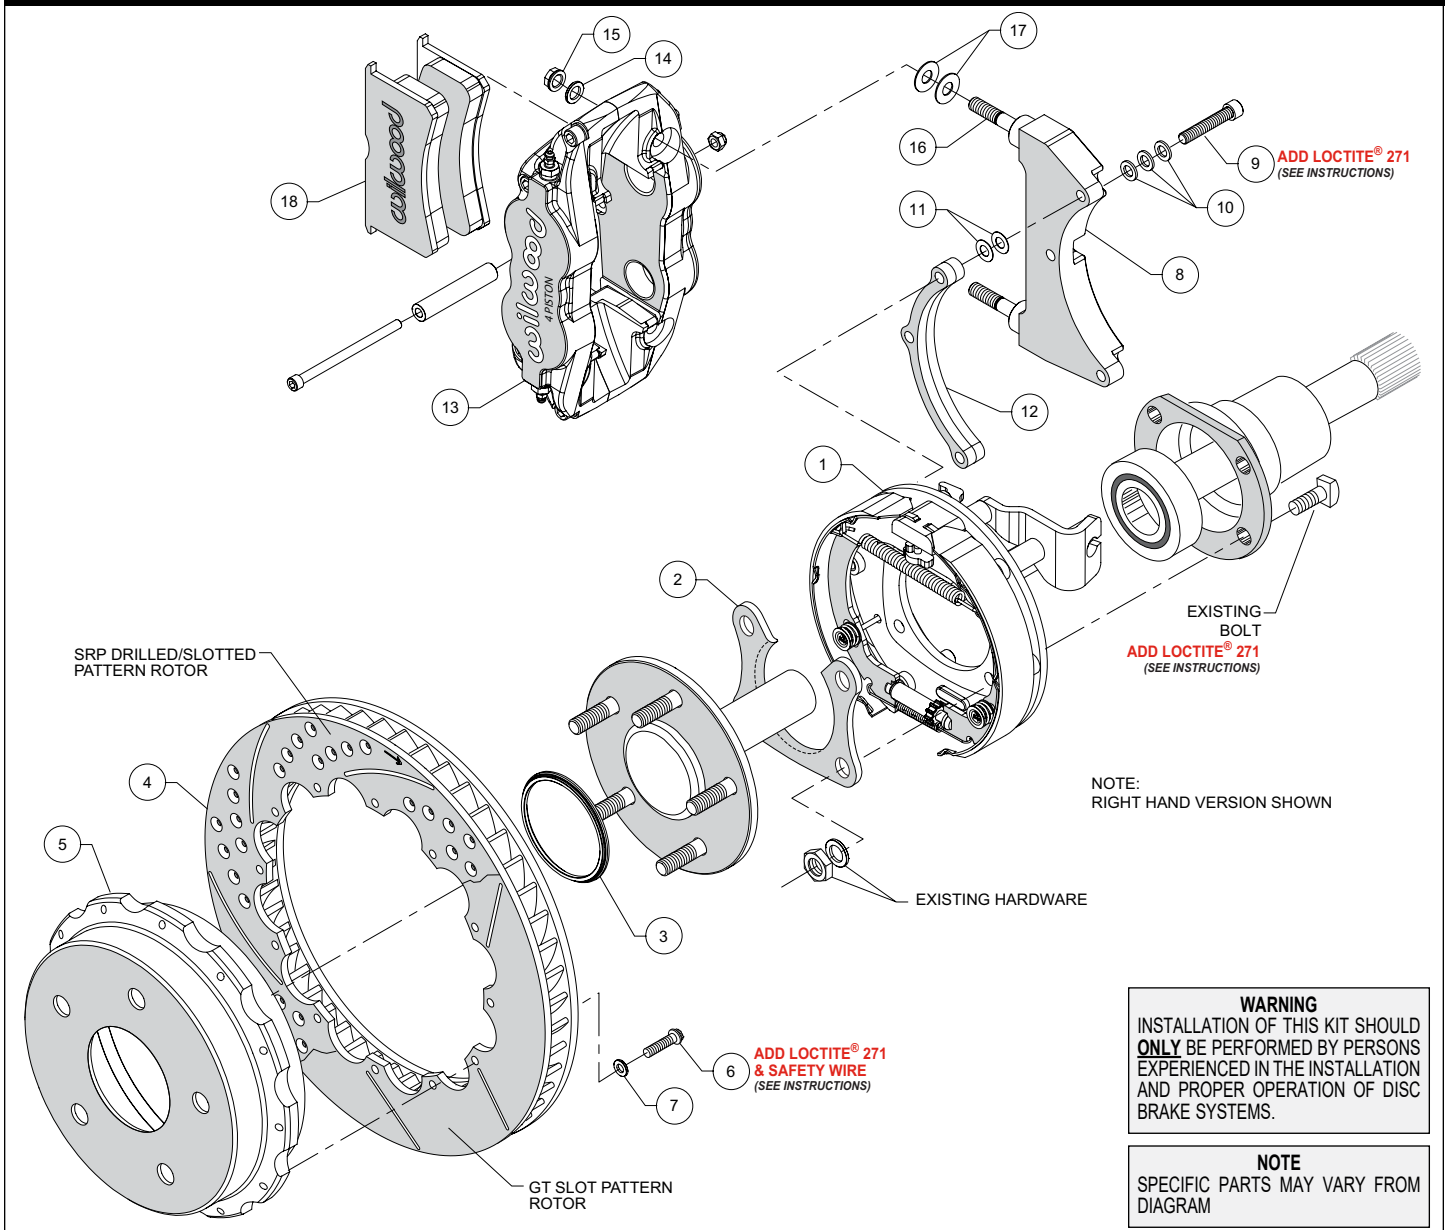
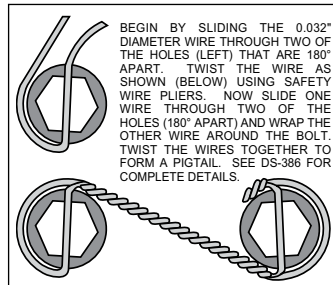

Figure 1. Typical Installation Configuration
Figure 5. Safety Wire Diagram
Assembly Instructions (numbers in parenthesis refer to the parts list, and Figure 1 on the preceding pages): **CAUTION:** All mounting bolts must fully engage clinch nuts. Be sure to check that all bolts are either flush or protruding through flanged side of clinch nut after shimming.
- Orient the bracket assembly (1) as shown in Figure 1 and Photo 1 and slide it onto the axle. Insert the axle and bracket into the axle housing. Ensure that the bracket assembly backing plate fits flush against the axle housing flange.
- Install the bearing retainer (2) with the opening pointing upward and the lip facing inward (toward the bearing), as shown in Figures 1 and 4, and Photo 2. Secure retainer and bracket assembly to the axle housing flange using the Original Equipment Manufacturer (OEM) bolts, washers, and nuts, Figure 1. Apply red *Loctite*® 271 to the OEM bolt threads and torque to OEM specifications.
•**NOTE:** Please reference the caution statement at the beginning of the assembly instructions. The caliper mounting bracket (8) should initially be installed with clean, dry threads on the mounting bolts. Orient the bracket as shown in Figure 1 and Photo 3, and install using bolts (9) and three flat washers (10). Initially place two .015" shim washers (11) on each bolt between the bracket (8) and spacer (12), Figure 1. Temporarily tighten the mounting bolts. **NOTE:** End of bolt should not exceed inside face of insert. The bracket must tighten squarely against the back side of the bracket kit assembly (1). Later, after the caliper alignment has been checked, the mount bolts will be secured using red *Loctite*®.
•Orient the rotor (4) and the hat (5) as shown in Figure 1 and Photo 4. Attach rotor to hat using bolts (6) and washers (7). Apply red *Loctite*® 271 to the bolt threads and torque to 140 **in-lb** using a criss-cross pattern. For an added measure of security, the bolts may be safety wired using standard 0.032 inch diameter stainless steel safety wire as shown in Figure 5. Please refer to Wilwood's data sheet DS-386 (available at www.wilwood.com/Pdf/DataSheets/ds386.pdf) for complete safety wire installation instructions.
•Slide the rotor registration adapter (3) onto the axle register on the axle flange with the smaller O.D. facing toward the rotor/hat (4/5), Photo 5. Align the hole pattern in the hat with the stud pattern on the axle flange and slide into place, Figure 1 and Photo 6. **NOTE:** The rotor/hat must fit flush against the axle flange or excessive rotor run out may result. Install three lug nuts (finger tight) to keep the rotor/hat assembly in place while continuing with the installation. **NOTE:** Some OEM and after market axles come with stud sizes larger than 0.50" diameter. Verify stud size and have a qualified machine shop drill the bolt circle of the hat/rotor to the correct stud size, if necessary.
•Initially place two .035" thick shims (17) on each stud as shown in Figure 1 and Photo 7. Mount the caliper (13) onto the bracket (8) using lock nuts (15) and washers (14), Figure 1. Temporarily tighten the lock nuts and view the rotor through the top opening of the caliper. The rotor should be centered in the caliper, Photo 8. If not, adjust by adding or subtracting shims (11) between the bracket (8) and the spacer (12). Always use the same amount of shims on each of the three mounting bolts. Once the caliper alignment is correct, remove the bracket mounting bolts (9) one at a time, apply red *Loctite*® 271 to the threads, and torque to 180 **in-lb**.